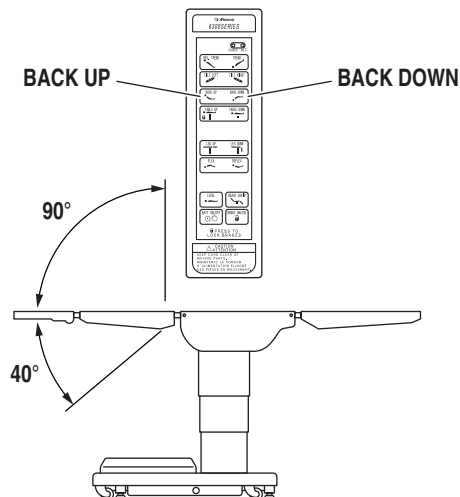

Figure 2-10. Back Section Positioning
d. Back Section To raise the back section, press the BACK UP button (figure 2-10). The back section will raise up to 90° above horizontal. To lower the back section, press the BACK DOWN button. The back section will go down to 40° below horizontal.